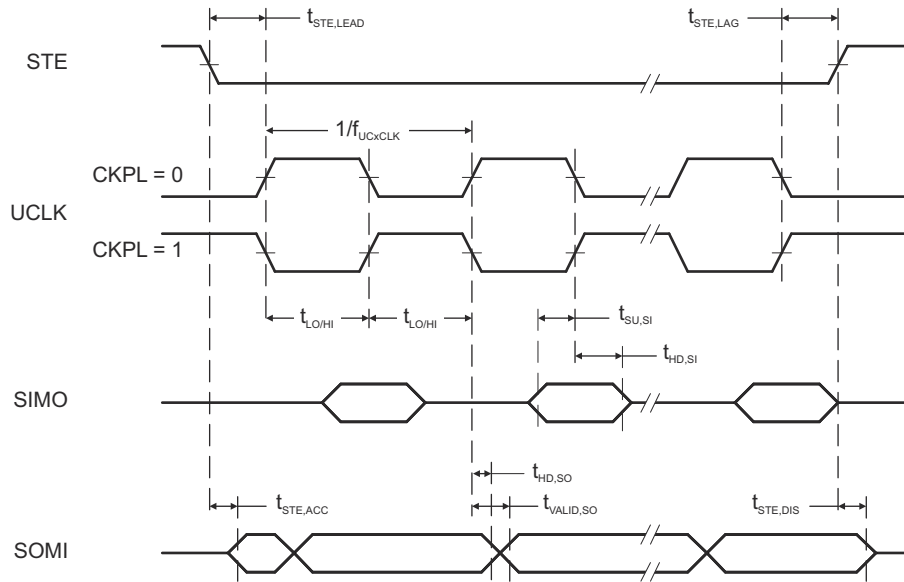
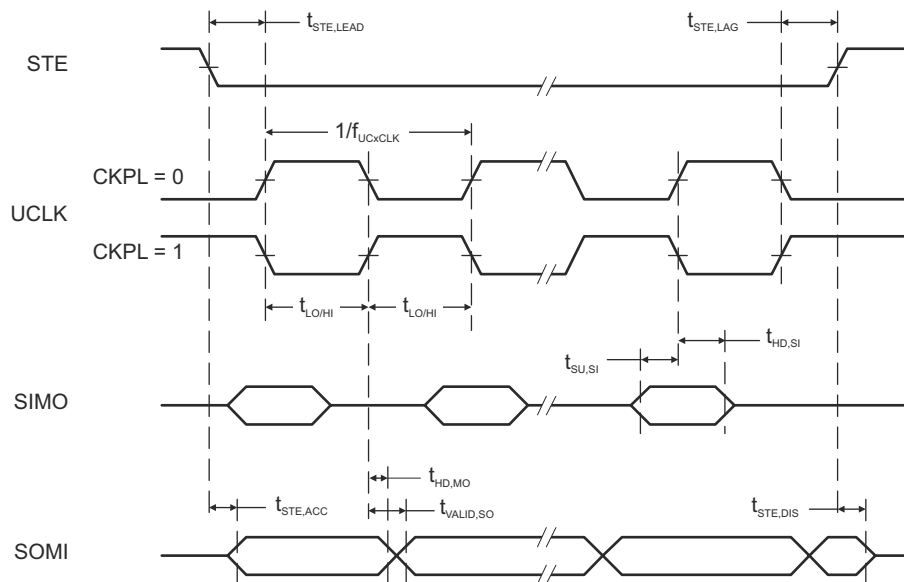

图 8-13. SPI Slave Mode, CKPH = 0
图 8-14. SPI Slave Mode, CKPH = 1
(see 图 8-13 and 图 8-14)
(2) Specifies the time to drive the next valid data to the SOMI output after the output changing UCLK clock edge. See the timing diagrams in 图 8-13 and 图 8-14.
(3) Specifies how long data on the SOMI output is valid after the output changing UCLK clock edge. See the timing diagrams in 图 8-13 and 图 8-14.